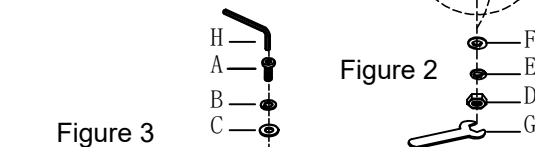

Figure 3
3. Attach the bottom shelf to the legs with Bolt (A), black Lock Washer (B), Black Flat Washer (C). Tighten all bolt with Allen Wrench (H). (See Figure 3).